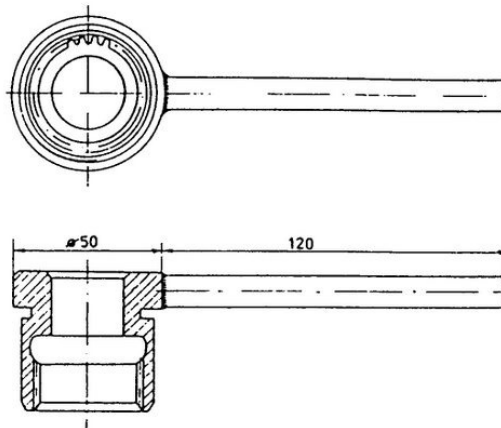

Fig. 64. Special wrench for blocking of an injection pump gear
- In case when is necessary to replace an injection pump gear 1.4.0771 use special wrenches (Fig. 64 and 65).